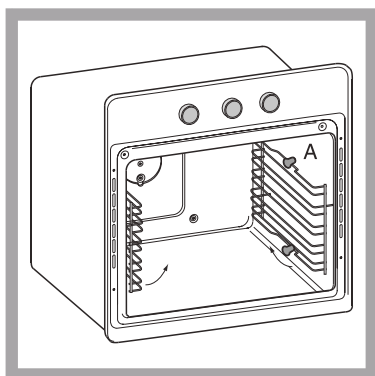

Fig.1
1. Remove the two frames, lifting them away from the spacers A (See Fig.1)